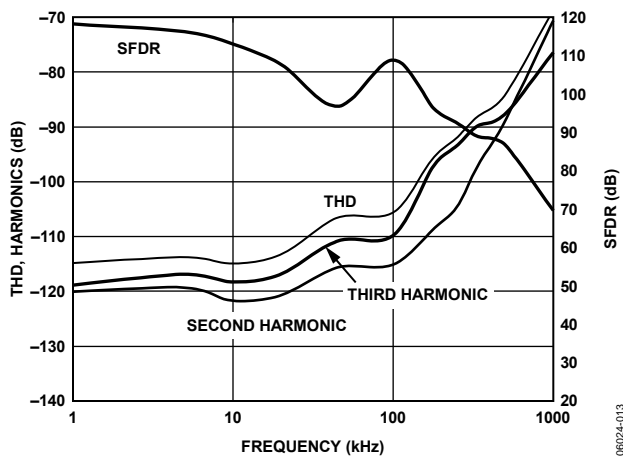

Figure 13. THD, Harmonics, and SFDR vs. Frequency
- The driver needs to have a THD performance suitable to that of the AD7643. Figure 13 gives the THD vs. frequency that the driver should exceed.